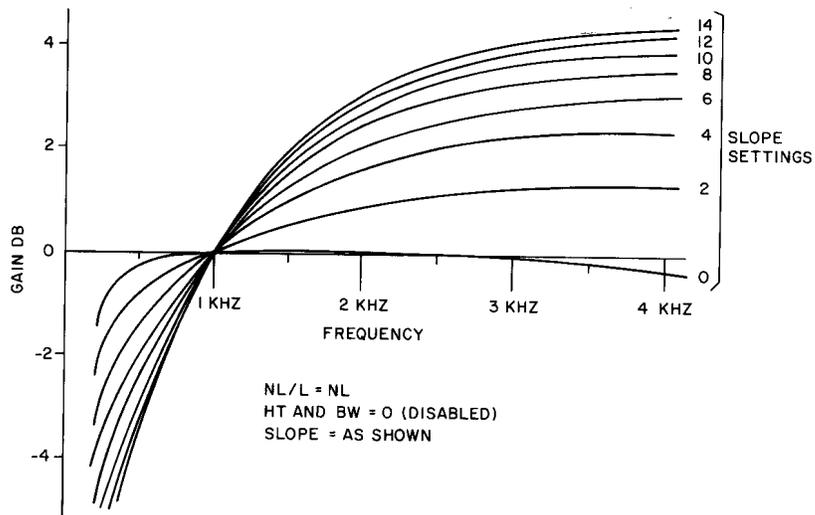

Fig. 13—Gain-Frequency Response of the 309B Amplifier Unit (Equalizer)—NL/L = Nonloaded, Slope Variable
**6.03** Figures 13 through 16 show gain-frequency characteristics of the 309B amplifier unit in the repeater with representative settings of the equalizer. Each figure is a family of curves which shows the approximate range of adjustment of the equalizer functions. Note that there is greater variation in the SLOPE curves at the higher frequencies when the equalizer is set for nonloaded (NL) cable. Conversely, the lower frequencies are affected more when the NL/L switch is set for loaded cable.